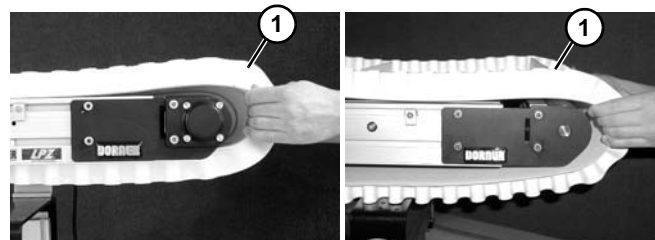

**Figure 59**
3. Install belt (**Figure 59, item 1**) on conveyor. Lift conveyor slightly to avoid pinching belt on temporary support stands.